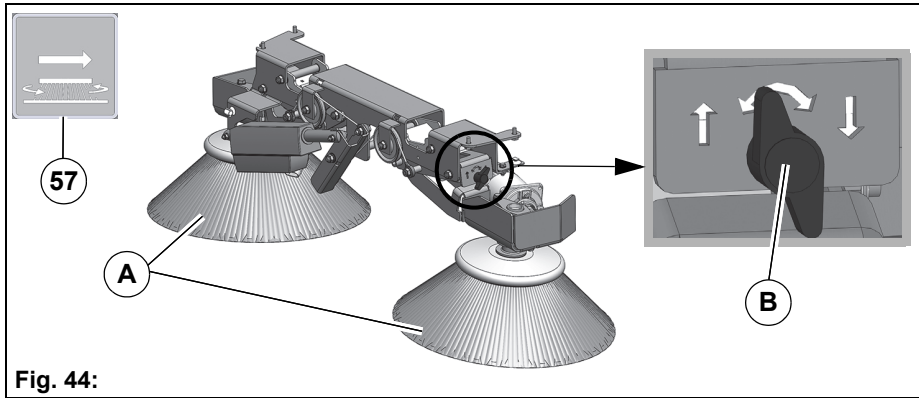

Fig. 44:
The tilt of the side brush **Fig. 44-A** is preset in the factory and cannot be changed.
3. Turn wing nuts **Fig. 44-B** clockwise at both sides until 1/3 of the area of the side brush is touching the floor.